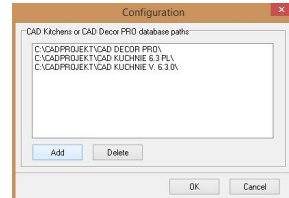

Fig. 41 – 'Configuration' dialog box
- 3) **'Database catalogues'** - opens configuration window (Fig. 41), in which you can select a location in which CAD Kitchens or CAD Decor PRO programs have been installed, and this way define the paths to kitchen cabinet database. Use the **'Add'** button to browse for location and then click **'OK'** to confirm the new path.